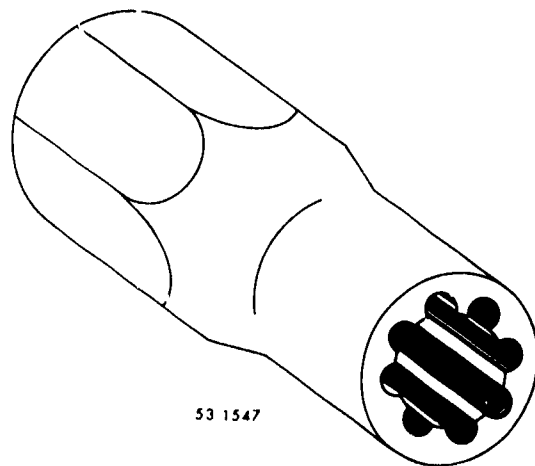

Figure 6-4. Locally produced stud remover.
cases, if a single part of the kit is damaged, an entire kit must be purchased to get the replacement part. Therefore, we offer a simple, economical, and effective substitute. Figure 6-4 shows a stud remover tool made from a piece of hex stock. This tool, as well as the commercial kits, can be used only when the damaged stud extends above the surface of the parent part, but this one has several advantages over the commercial tools: (1) it is smaller than the average commercial tool; (2) it can be used effectively on studs that extend only 1/16 inch above the parent surface, whereas the commercial tools normally require more grip length; (3) it is not easily damaged; and (4) it can be replaced very economically.